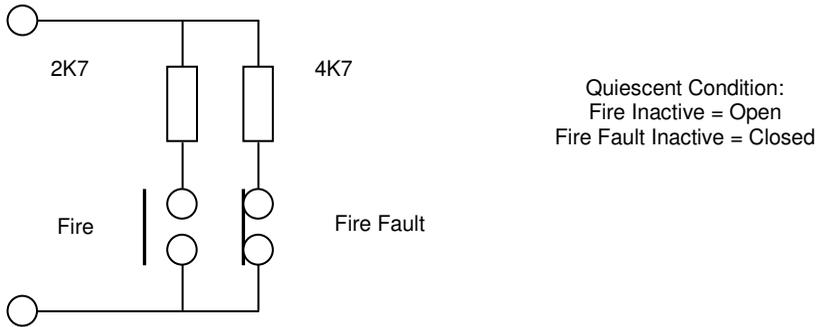

Fig 3.0 Fire and Fire Fault Input Signalling Circuit
Fire & Fire Fault Input x 2	From combined Fire and Fire Fault signal from fire control panel – see Fig. 3.0 for typical circuit
- 11) Connect Fire and Fire Fault input to corresponding outputs on fire control panel, or interfacing relays. Use ONLY the signalling resistor values shown in Fig. 3.0.